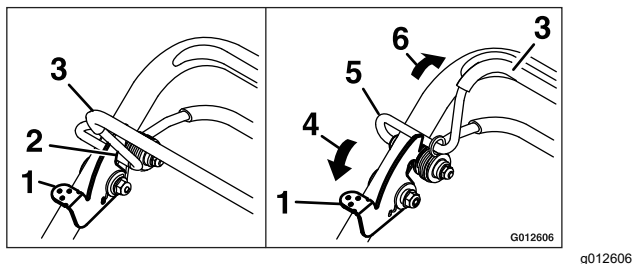

Figure 20
1. Push and hold the blade-control lock lever forward to release the blade-control bail (Figure 20).